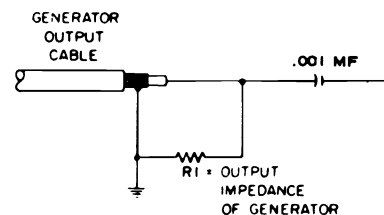

Figure 16 — Generator Cable Term.
**Generators** — Except where otherwise noted, all signal generating equipment should be terminated as shown in Figure 16. Connect the signal cable ground near the ground of the stage where the signal is injected.